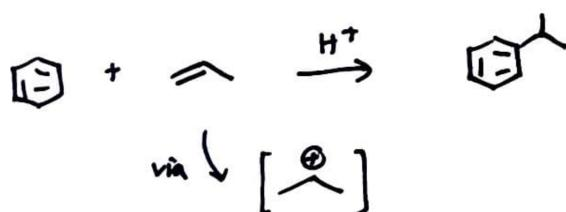

Figure 6.8: Hock process (stage 1).
- Here, the primary carbocation is too high energy, so instead, we get concerted migration of the hydrogen to form the same secondary carbocation that we saw in Figure 6.8 from the protonation of propene.